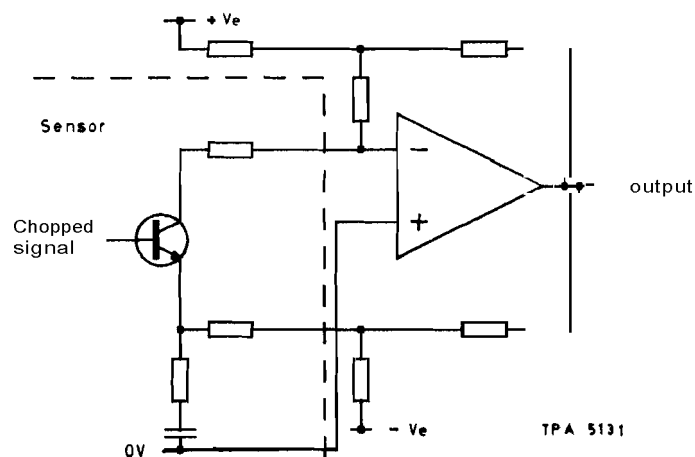

Fig. 2 First amplifier
7. First amplifier (sheet I). ICI and associated components form the second part of the 1st amplifier, the first part being in the power sensor assembly. When using the 6910 series sensors this amplifier has a gain of approximately 1000. Fig. 2 shows a simplified complete amplifier.